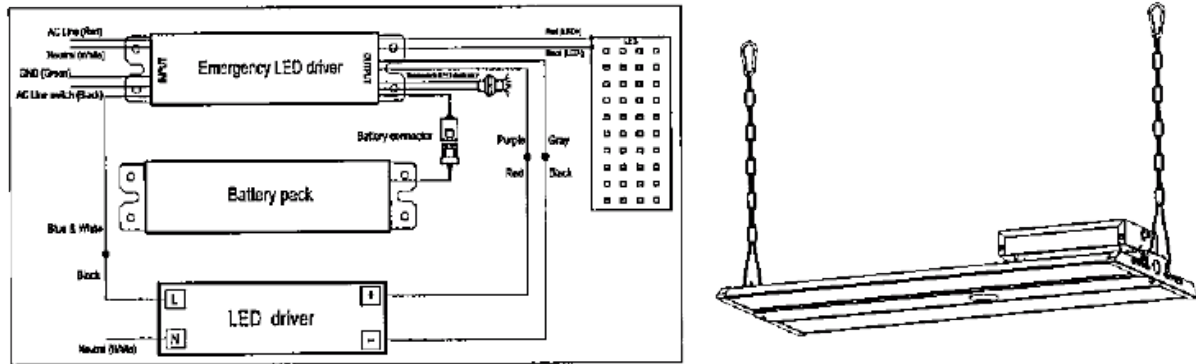

Figure 14
Step 1: Connect the wires according to the wiring diagram. (Figure 14)